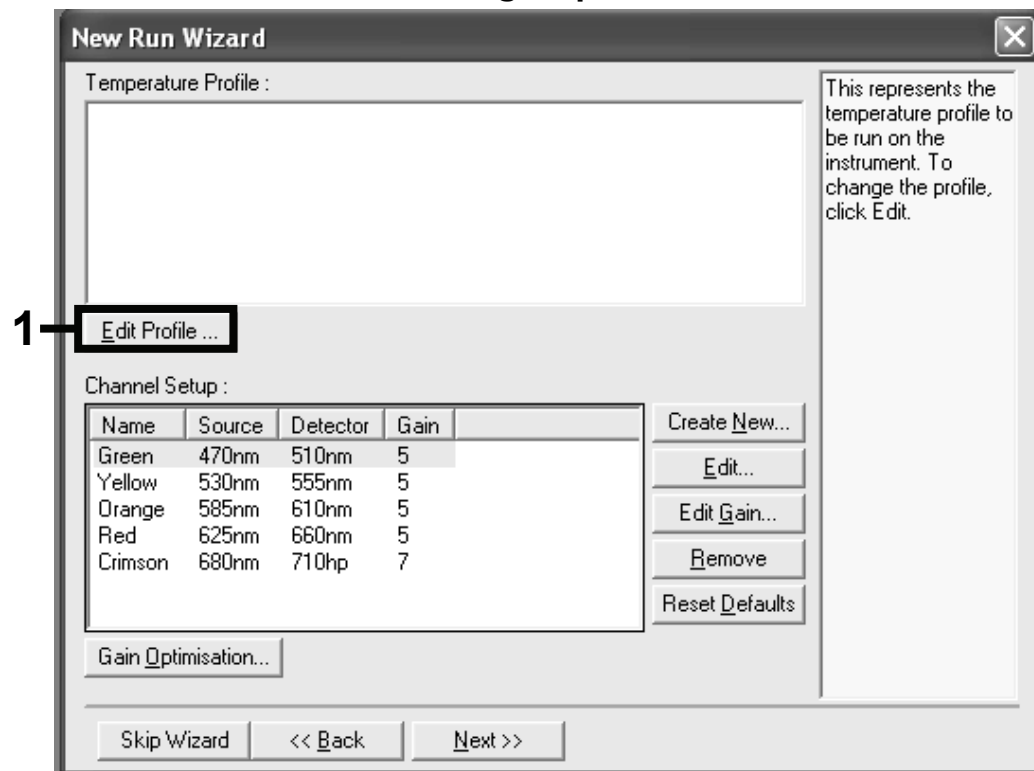

Figure 3. Editing the profile.
12. Click the “Edit Profile” button in the next “New Run Wizard” dialog box (Figure 3), and program the temperature profile according to the information in the following steps.